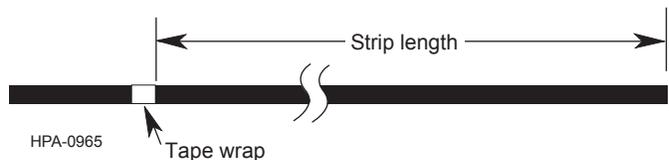

Figure 2
Step 1: Determine the proper sheath removal length for the hardware being used. Mark a point at this distance from the end of the cable with a wrap of tape (Figure 2)).